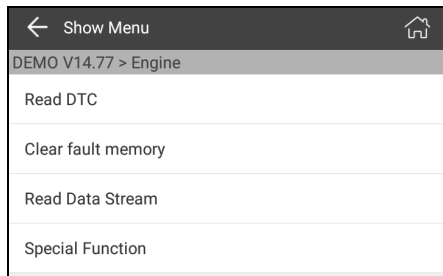

Fig. 4-16
- 3). Tap “Engine”, the system will navigate to the test function menu. See Fig. 4-16.